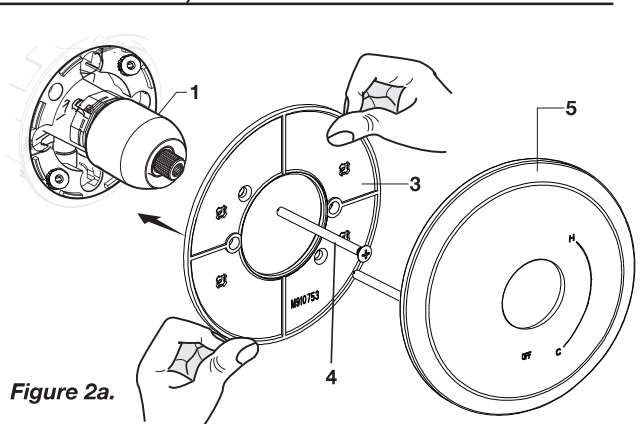

Figure 2a.
- **Figure 2a.** Push MOUNTING PLATE (3) onto CAP (1) and attach to valve body with LONG SCREWS (4).
- **Figure 2a.** Push ESCUTCHEON (5) on to MOUNTING PLATE (3).